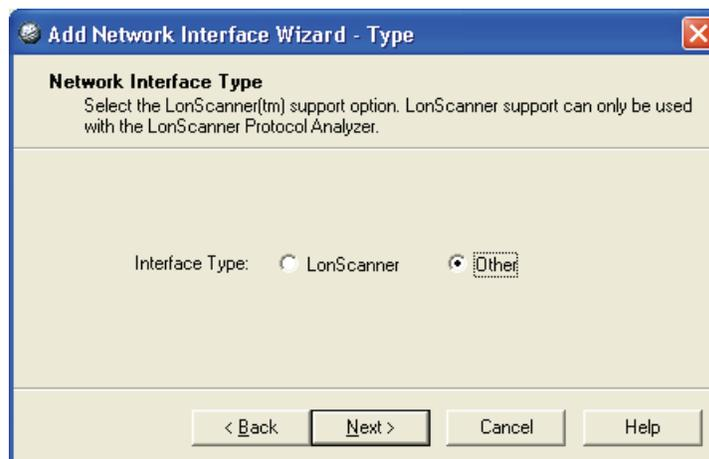

FIGURE 4-19. NETWORK INTERFACE TYPE
7. On the “Network Interface Type” window, choose **Other**, and click **Next** (see Figure 4-19).